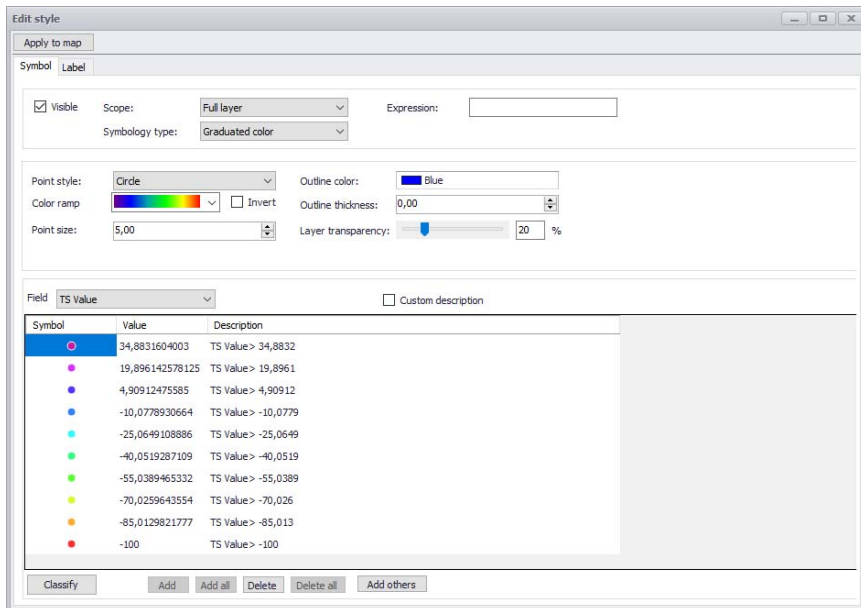
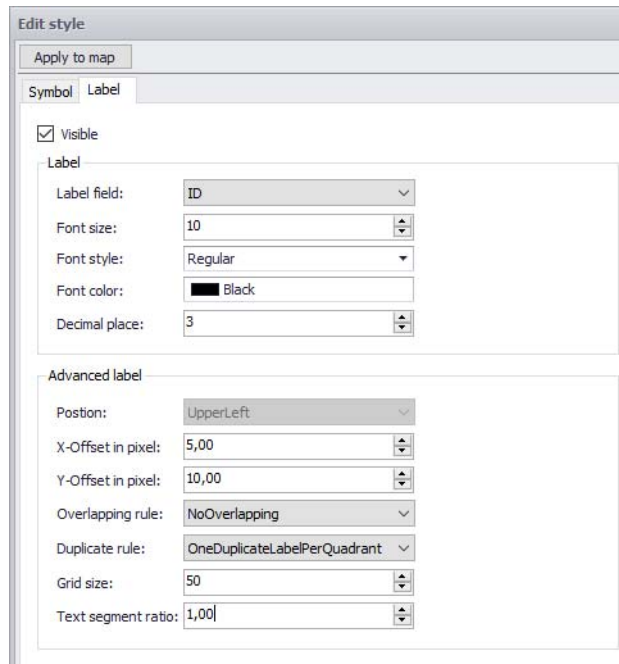

Figure 20.18 The Edit Style dialog Symbol tab
Figure 20.21 The Label tab on the Edit Style dialog
- Click on the 'Edit style' option to access the Edit Style dialog. There are two tab pages on the dialog: Symbol and Label. Access the relevant tab page to customize labelling or symbology (Figure 20.18 and Figure 20.21).